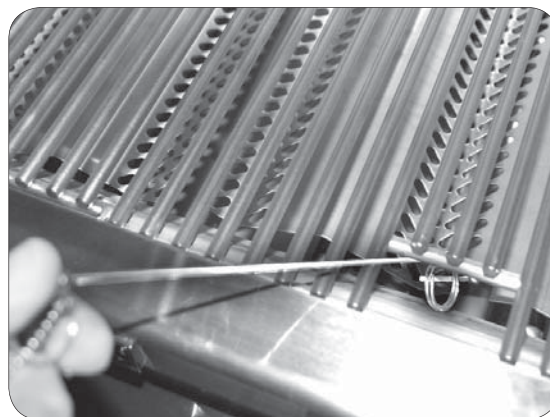

Fig. 21-2 - Manual lighting
**CAUTION:** Always wait five (5) minutes for gas to clear after any unsuccessful lighting attempt.
2. Insert either a burning long-barrel butane lighter, a burning long-stem match, or a burning match held by a wire extension holder through the cooking grid opening to the top of the burner (Fig. 21-2).
4. If the burner does not light, **immediately depress the knob and turn the valve to OFF**. **WAIT FIVE (5) MINUTES** before repeating steps 2 through 4 of the **MANUAL LIGHTING** instructions.